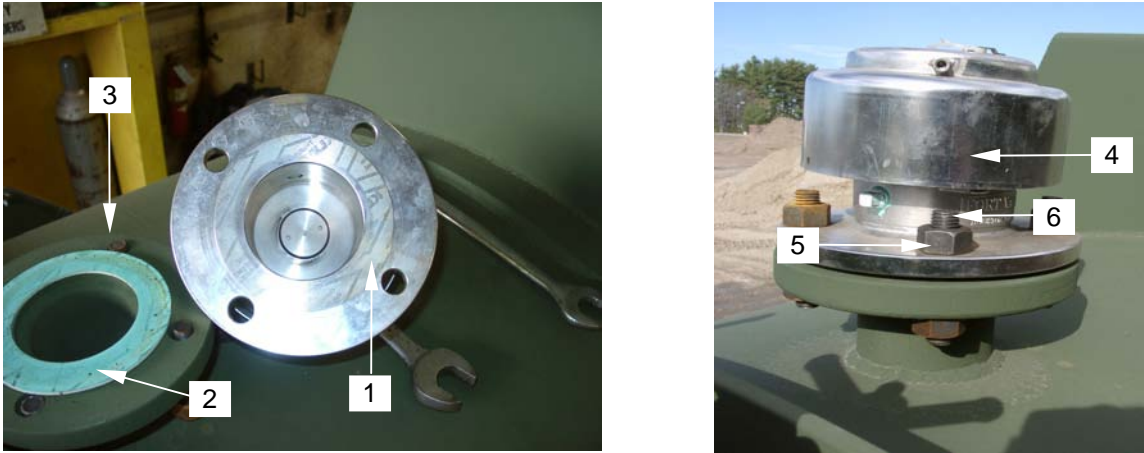

Figure 3. Installing Safety Relief Valve
5. Clean mating surfaces of tank flange (**figure 2, item 2**) and safety relief valve seating surface (**figure 3, item 1**).
6. Install new gasket (**figure 3, item 2**) onto flange (**figure 3, item 3**).
7. Install new safety relief valve (**figure 3, item 4**) onto flange (**figure 3, item 3**)
8. Install and tighten mounting nuts (**figure 3, item 5**) to flange studs (**figure 3, item 6**).